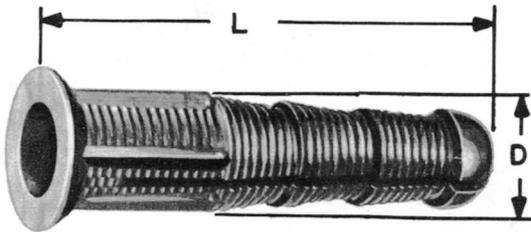

Fig. 1
1.02 These anchors are available in three sizes and four designs (Fig. 1, 2, 3, and 4).